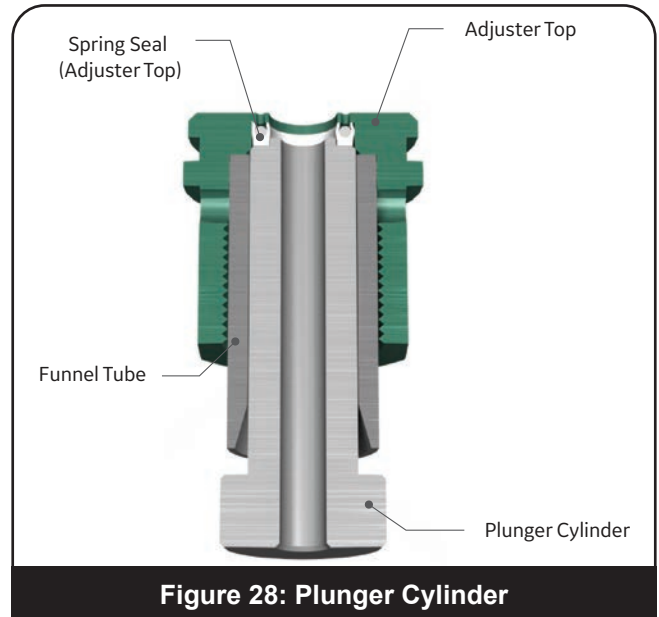

Figure 28: Plunger Cylinder
- viii. Push down on Plunger cylinder to insert Spring Seal (Adjuster Top) into Adjuster Top as shown in Figure 28.